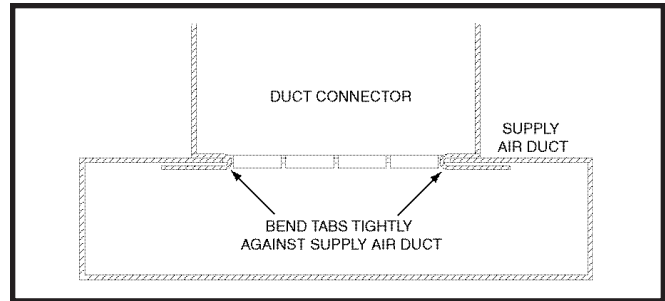

Figure 8. Duct Connector Tabs
Duct connectors are recommended for heated air distribution in under-the-floor duct systems. With this system, furnaces may be installed on combustible flooring without a separate sub-base. The furnace rear mounting plate (Figure 8 (page 10)) supplied with the duct connectors is recommended for use with this type of installation.
- Mark the cut-out area on the supply air duct by tracing around the connector tabs of the duct connector. See Figure 8.
- Install the mounting plate (Figure 8) under the back side of the duct connector. Align the screw holes in both components.